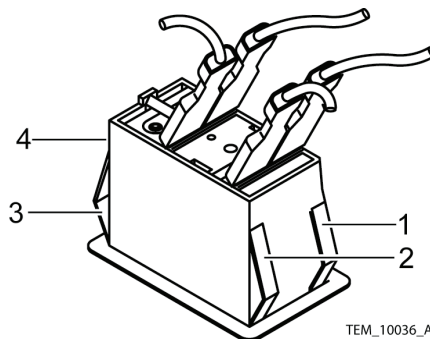

Figure 28. Power Switch Clips and Wires
23. Slide the power switch through its hole in the front of the front cover assembly until the four clips on the power switch click into place. Ensure that the "0", marked on the front of the power switch, is towards the bottom of the front cover assembly. See Figure 28.